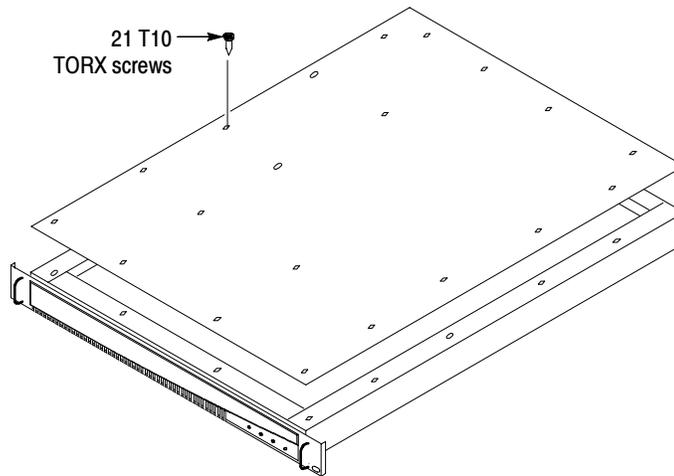

Figure 1: Removing the instrument cover
1. Remove the 21 retaining screws (see Figure 1) and lift the cover clear of the instrument.
14. Position the cover on the instrument chassis and install the 21 retaining screws (see Figure 1 on page 4).